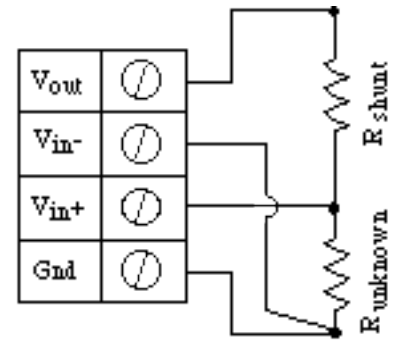

Fig 3.4 - Resistance Measurement - Voltage Divider Method
6. Wire your voltage source per figure 3.4, and refer to the steps at the beginning of this chapter for more information on how to set up your sensor.¹⁰